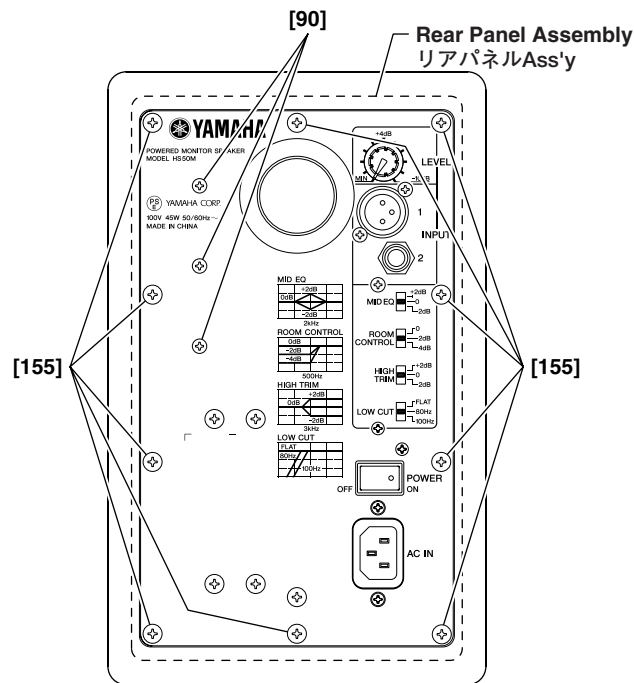

Fig. 2 (図 2)
Remove the ten (10) screws marked [155]. The rear panel assembly can then be removed. (Fig. 2)
- 4-2 Remove the three (3) screws marked [90]. The AMP unit can then be removed. (Fig. 2)
[155]のネジを10本外し、リアパネルAss'yを外します。(図2)
- 4-2 [90]のネジを3本外し、AMPユニットを外します。(図2)